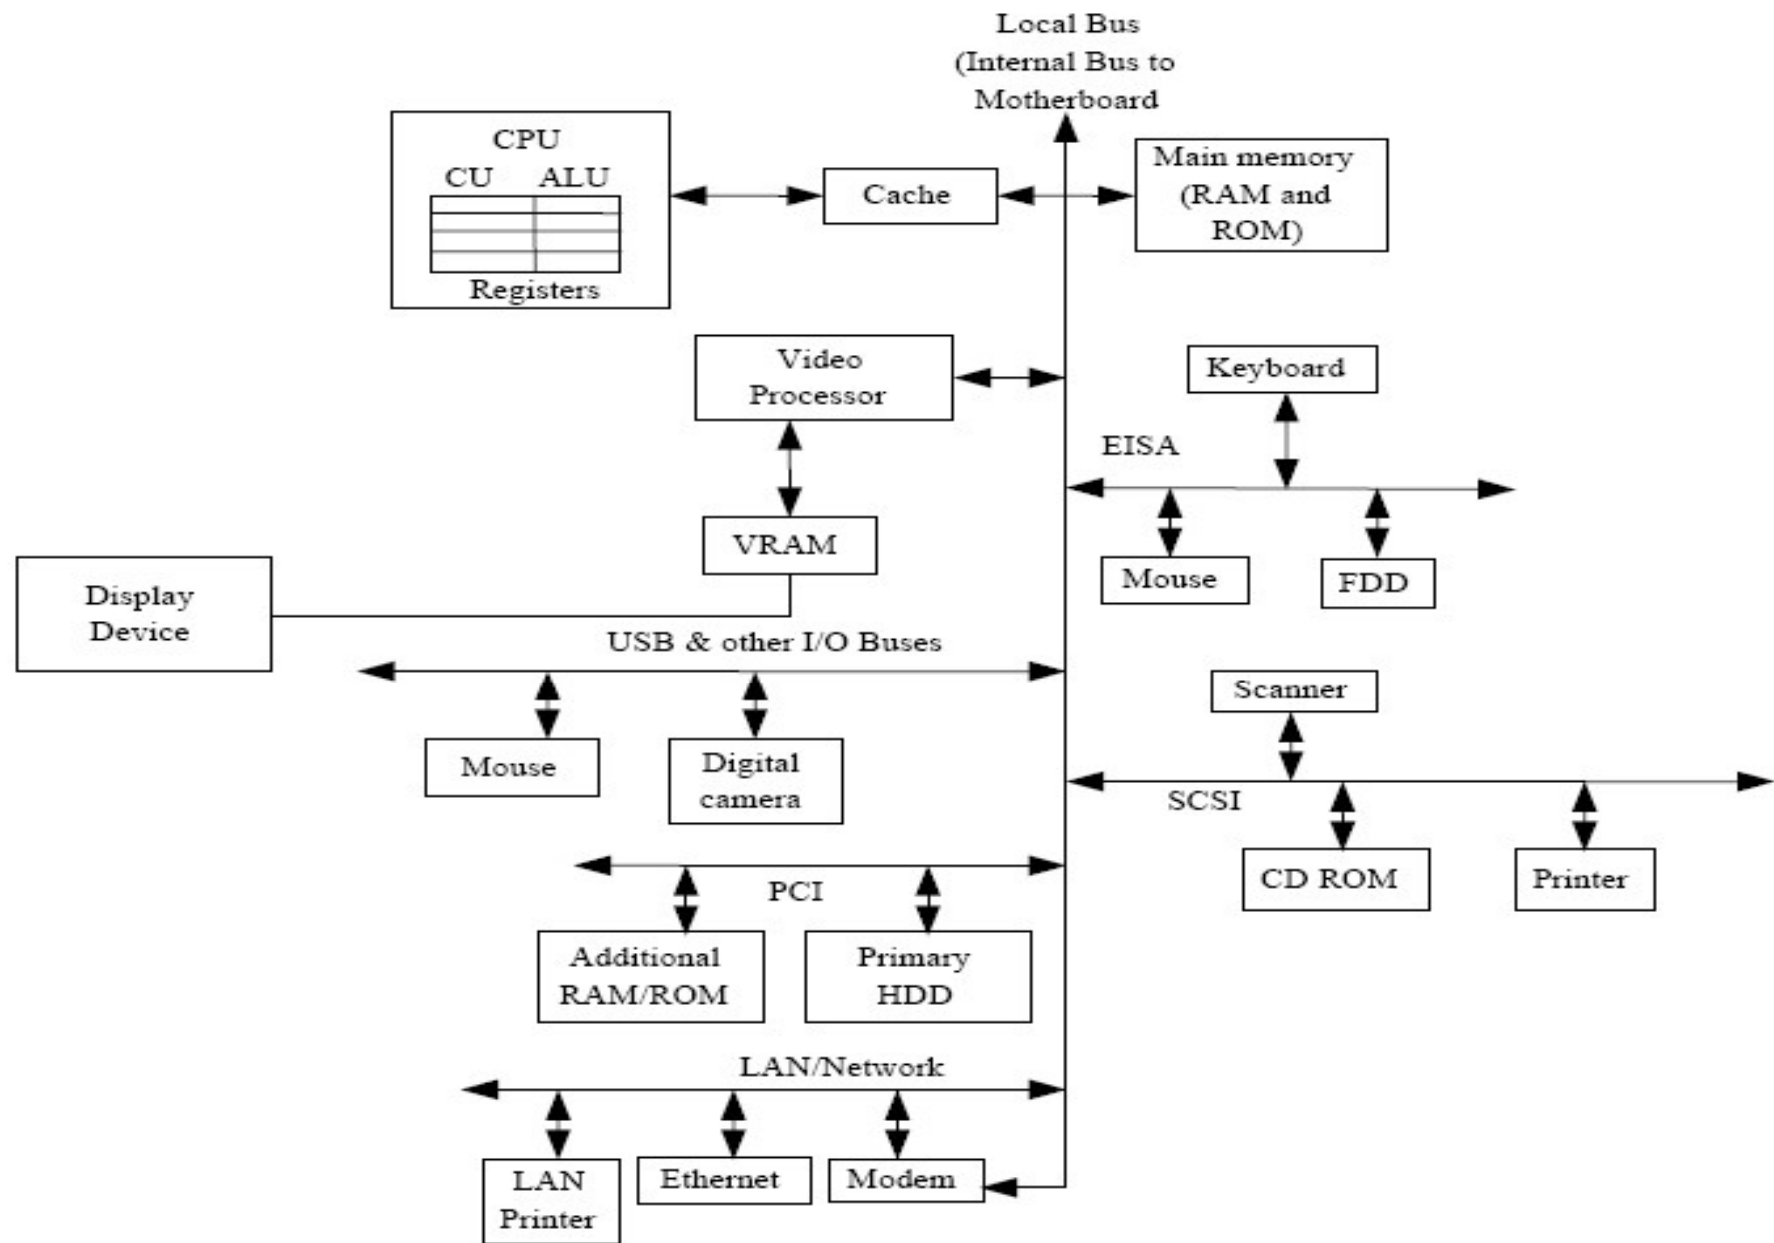

Figure 1: Block Diagram of a Microcomputer System
- The block diagram of a microcomputer system is shown in Figure. 1.